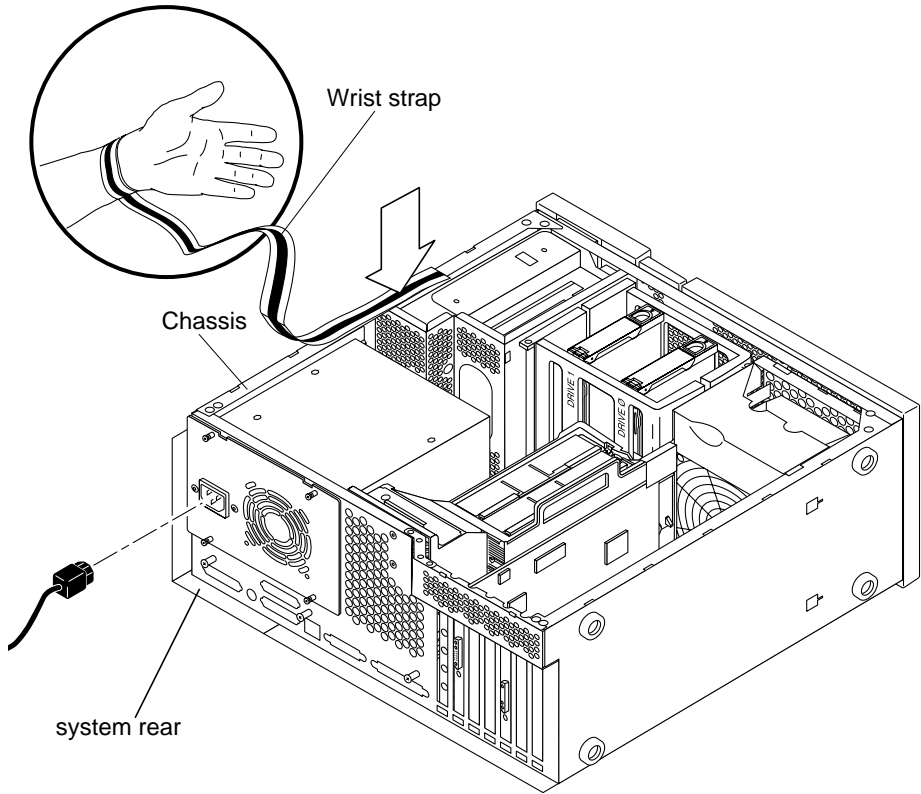

FIGURE 3-4 Attaching the Wrist Strap to the Ultra 60 Chassis
3. Attach the copper end of the wrist strap to the chassis (FIGURE 3-4).